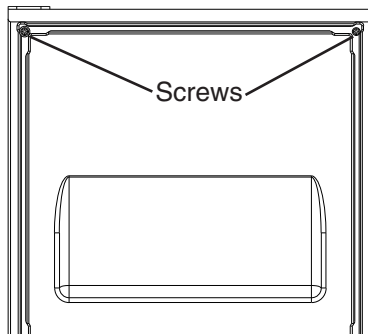

Fig. 11
- 9) Temporarily fasten the overlay panel to the door using 2 of the M4×25 pan head screws provided. See Fig. 11.